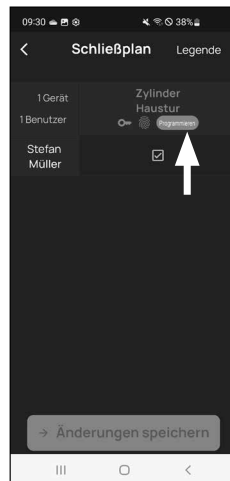

Fig. 4
- ⑤ If any changes have been made to the locking plan, the display of the respective cylinder appears red and the „Program" button is displayed. This indicates that the settings have not yet been transferred to the cylinder. To do this, tap the red „Program" button for the respective cylinder (Fig. 4).